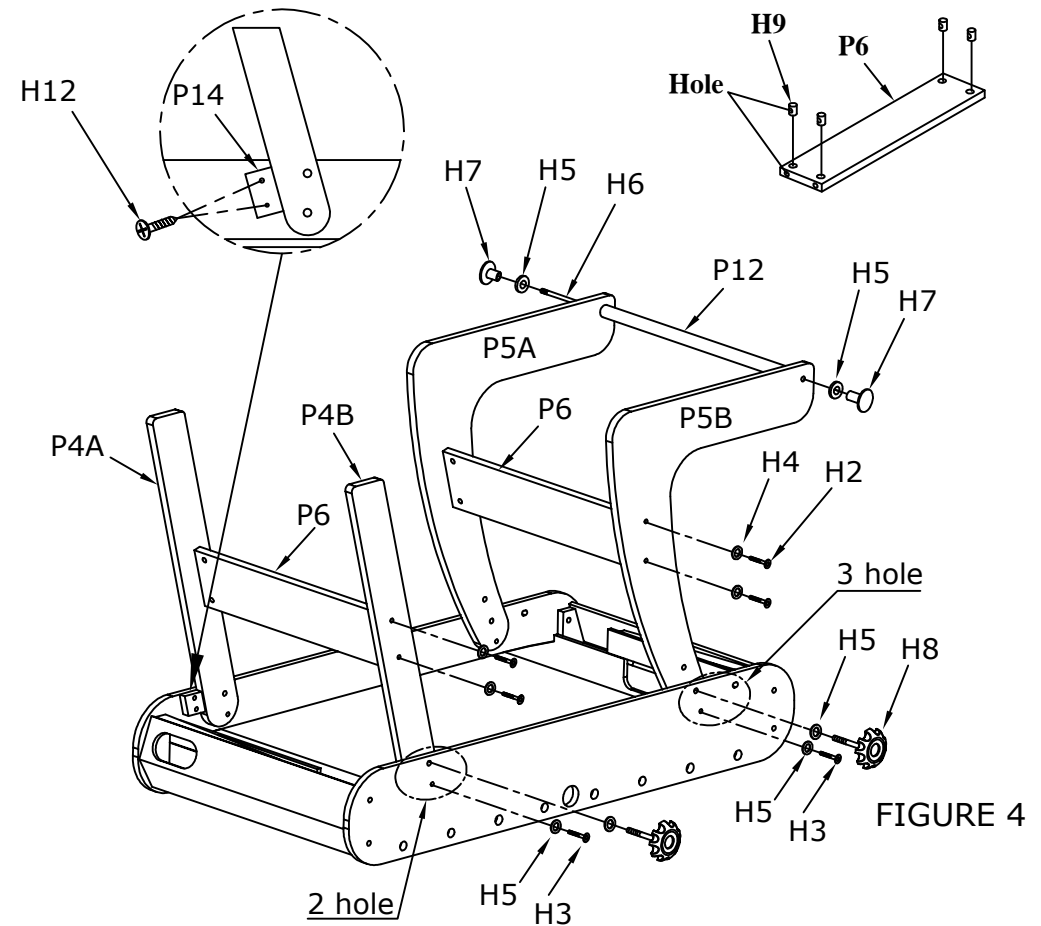

FIGURE 4
4. Attach the straight legs **P4A&P4B** and angled legs **P5A&P5B** to the table by using bolts **H3**, washers **H5** and handle bolt **H8**. See **figure 4**.
5. Insert the nut **H9** into the hole of the leg **P6**. The hole of the nut align the hole of the panel. See **figure 4**.
Attach the leg panels **P6** with bolt **H2** and washers **H4**. See **figure 4**.
Insert the bolt **H6** into the tube **P12**, then attach with washers **H5** and nut **H7**. See **figure 4**.
7. Attach the leg board **P14** with screw **H12**. See **figure 4**.